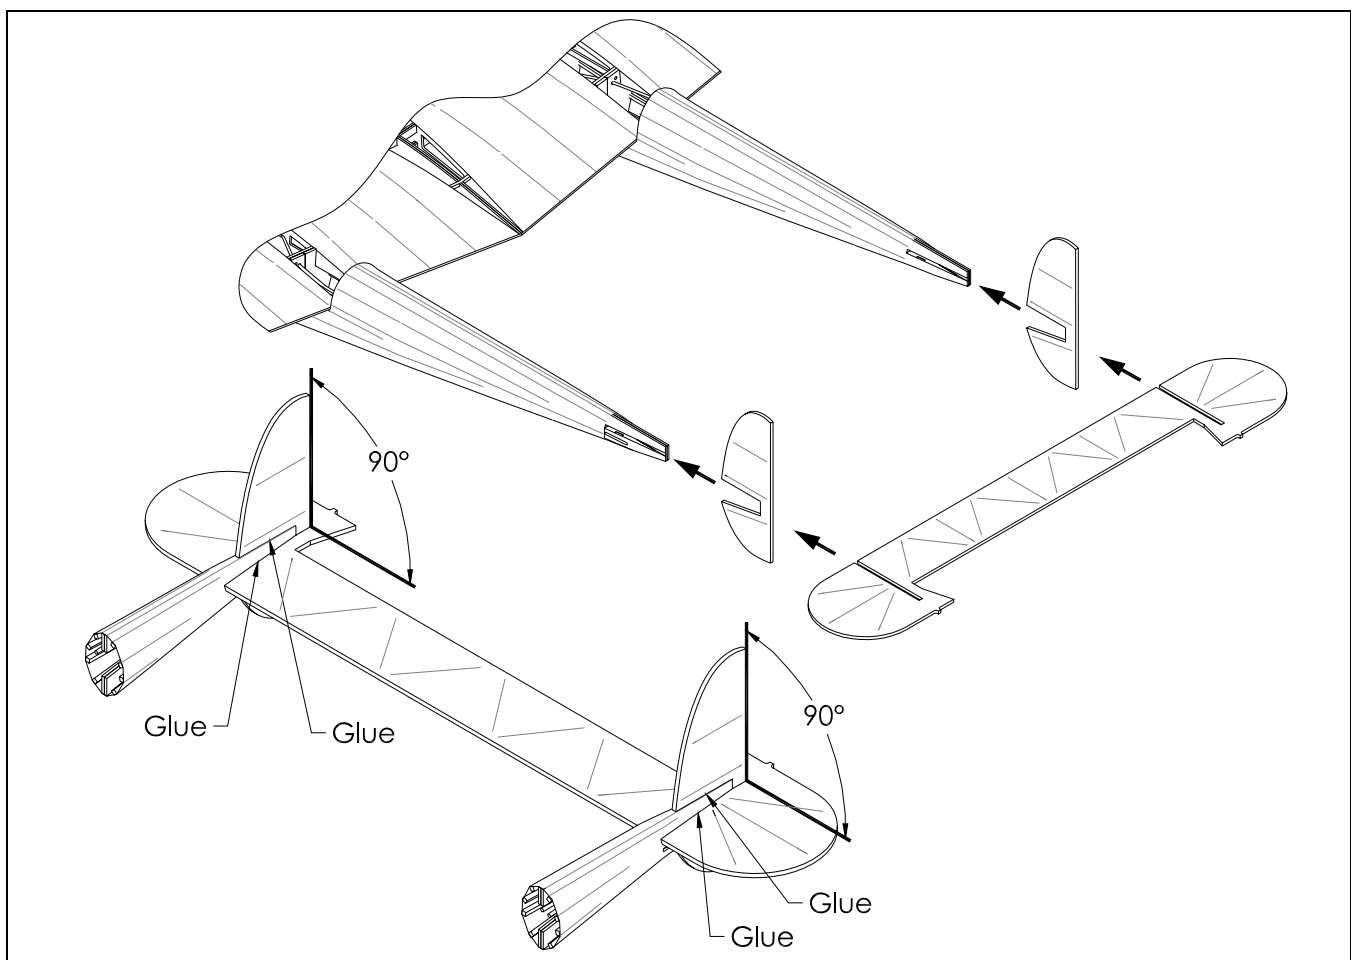

Figure 27
- ❑ Glue the vertical stabilizers, and horizontal stabilizer to the booms making sure each of the vertical stabilizers are perpendicular to the horizontal stabilizer as illustrated in Figure 27.